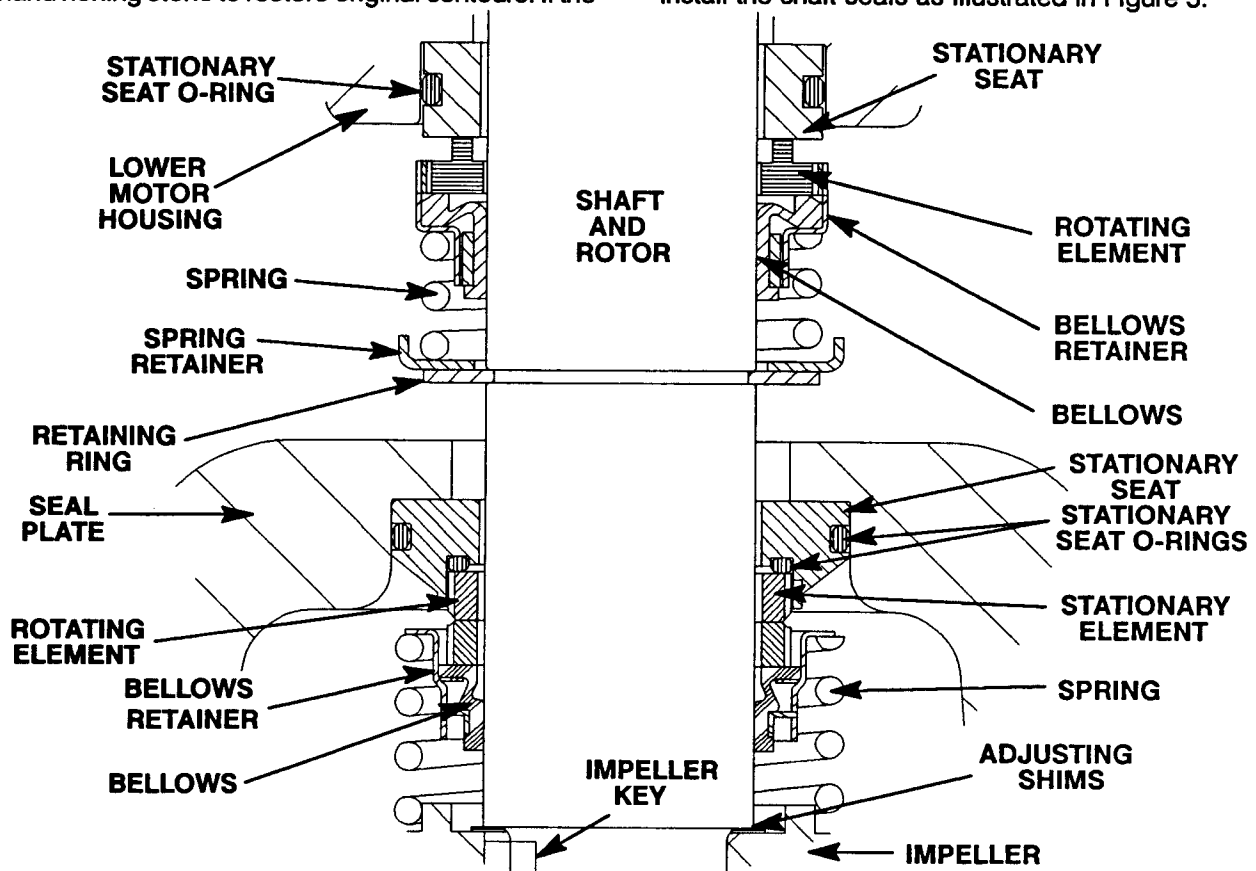

Figure 5. 46512-076 (Lower) And 25271-886 (Upper) Seal Assemblies
Install the shaft seals as illustrated in Figure 5.
Slide the seal spring over the shaft and bellows retainer, and install the spring retainer (19). Install the seal retaining ring (18). See Figure 5 for proper order of seal assembly.
Unpack the stationary seat, and check that the O-rings are properly installed (see Figure 5). Press the stationary element into the seat, making sure that the grooves in the element engage the lugs on the seat. Apply a **light** coating of oil to the seal plate bore and the outer O-ring. Keep the sealing face dry.
Slide the seal spring over the shaft and bellows retainer. See Figure 5 for proper order of seal assembly.